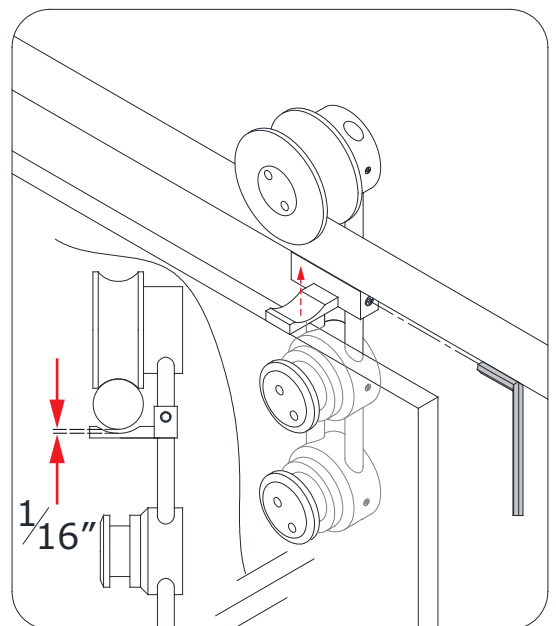

Fig. 21
18. Position the **Roller Guards (#04)** on both **Roller Assemblies (#04)** to within **1/16"** of the **Upper Guide Rail (#03)** to ensure that the **Door Glass (#05)** is secure. (Fig. 21)
19. Adjust both **Door Stoppers (#01)** to ensure that they are positioned upright and the **Door Glass (#05)** is in its maximum opening and closing range. Apply **Thread Lock Adhesive (#20)** to the set screws and tighten the set screws to fasten them in place. **(Fig. 21)**